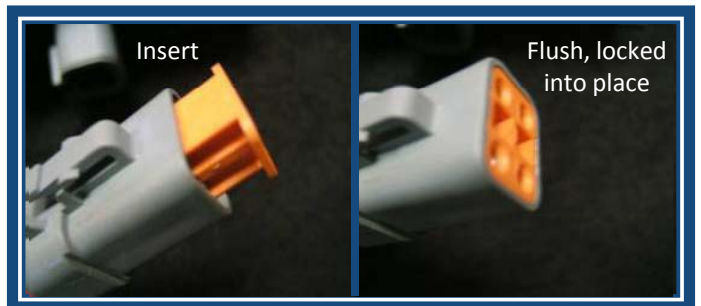

Figure 8
**Step 8:** Once both wires are inserted into the connector the orange lock can be inserted. (See Figure 8)